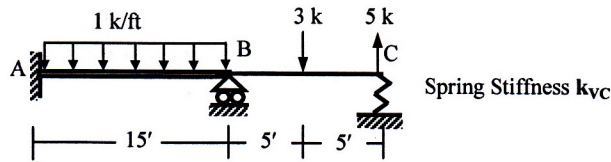

Fig. 10
12. For the beam loaded as shown in *Fig. 10*, use the Stiffness Method to calculate the rotation at joint B and vertical displacement of joint C, if B is supported by a circular foundation of radius 2-ft on sub-soil (half-space) [Given: Unit weight of soil = 0.12 k/ft², shear wave velocity (v_s) = 500 ft/sec, Poisson's ratio = 0.25 , $EI = 40 \times 10^3$ k-ft²].